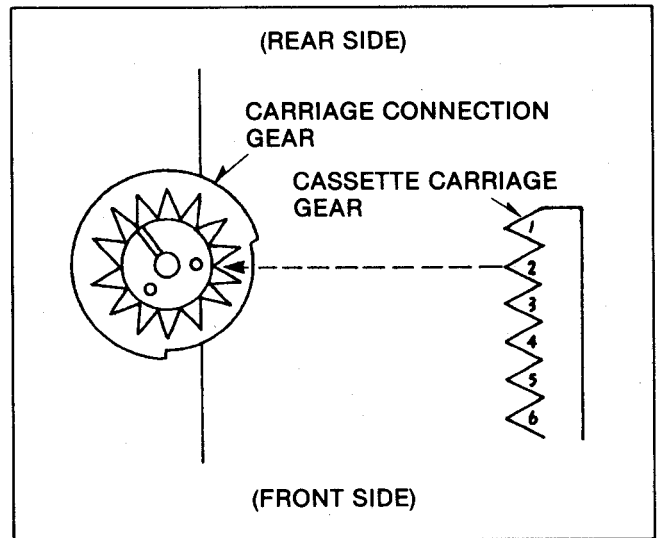

Fig. K14
- 2) Turn the LOADING MOTOR by hand in the unloading direction until the CARRIAGE CONNECTION GEAR and the MODE SW is eject position as shown in Fig.K14/K15.
- 3) Install the CASSETTE HOLDER UNIT as shown in Fig.K14.